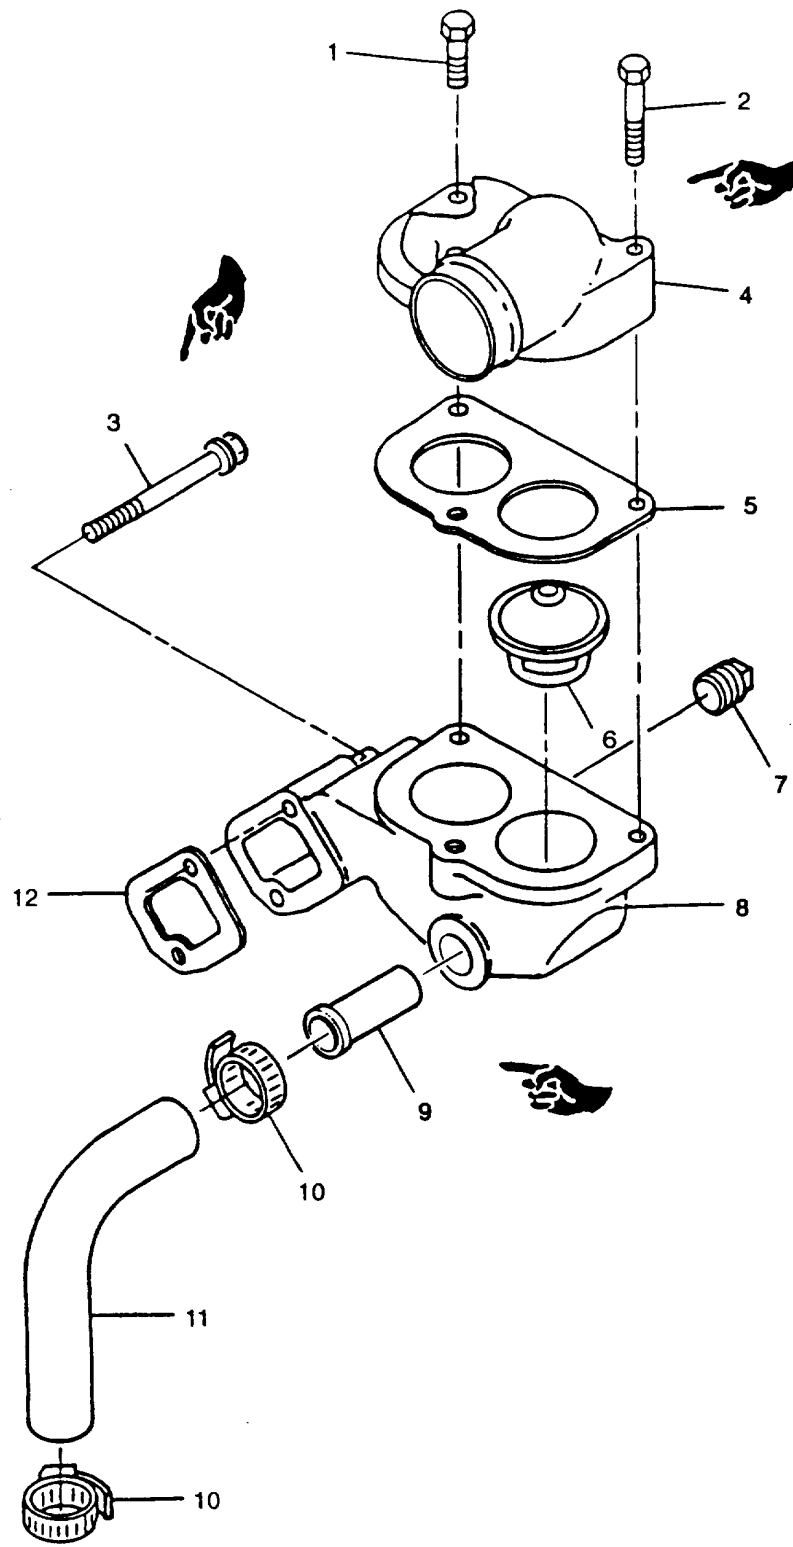

FIGURE 3-2. Thermostat and Housing
- b. Loosen hose clamp and remove outlet hose from cover (4, FIGURE 3-2).
- c. Remove one capscrew (1) and two capscrews (2) securing cover (4) to housing (8); remove cover (4) and gasket (5). Discard gasket (5) and lockwashers (3).
- d. Lift thermostat (6) from housing (8).
- e. Loosen two hose clamps (10) and remove by-pass hose (11) from housing adapter (9) and water pump housing.
- b. Install adapter (9, FIGURE 3-2) and plug (7) in housing (8).
- c. Position housing (8) and new gasket (12) on engine and secure with two capscrews (3). Tighten screws to 35 ft-lbs (47 Nm).